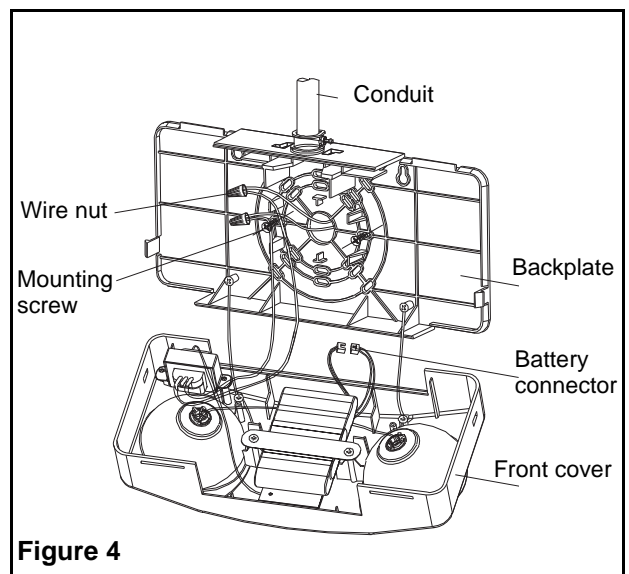

Figure 4
1. Remove the top knockout on the top flange of the back plate (see figure 4).